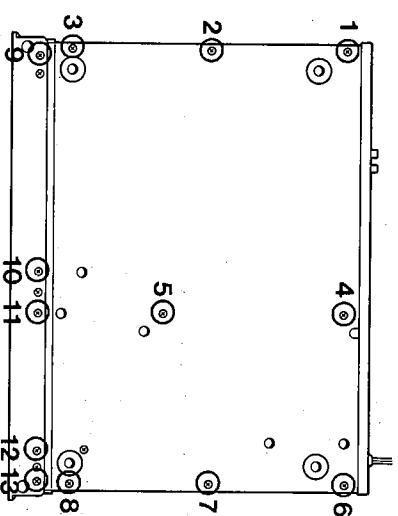
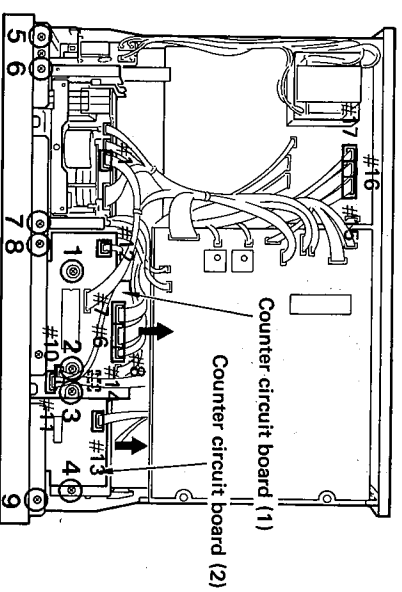

Fig. 2
Fig. 3
Remove screws ① through ⑧ in fig. 2 and then remove the bottom cover.
- c. Remove screws ① and ② in fig. 3 and pull the counter circuit board (1) backward gently (connected to the front panel by connectors.)
- d. Remove screws ③ and ④ in fig. 3 and pull the counter circuit board (2) backward gently (connected to the front panel as well as counter circuit board (1).)
- f. Remove screws ⑨ through ⑬ (binding screws only) in fig. 2 and screws ⑤ through ⑧ (binding screws only) in fig. 3, and then pull the front panel forward gently.